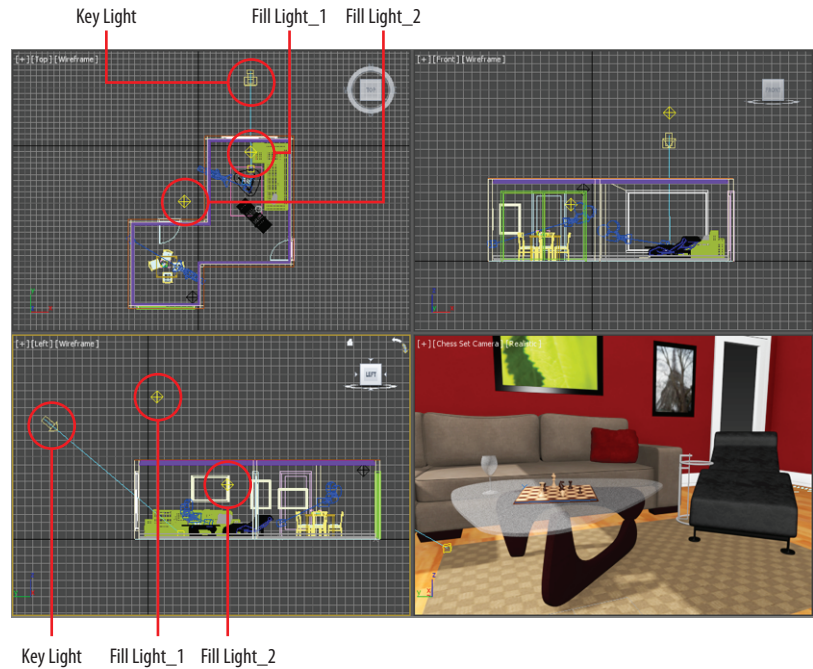

FIGURE 14.26 The position of Fill Light_2 shown in all four viewports
8. Move the light so it is just below the ceiling, as shown in Figure 14.26. Name the light Fill Light_2.